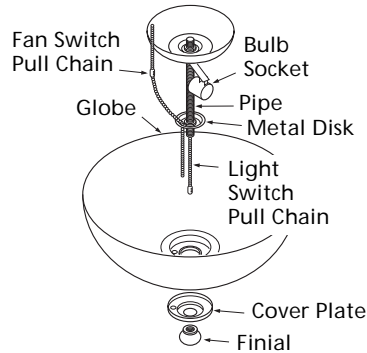

Figure 9e - Aurora Fixtures
**Note:** Sub-step 1 applies to all light fixtures. Sub-steps 2-7 apply to Tiffany and Aurora light fixtures. Refer to Figure 9e.